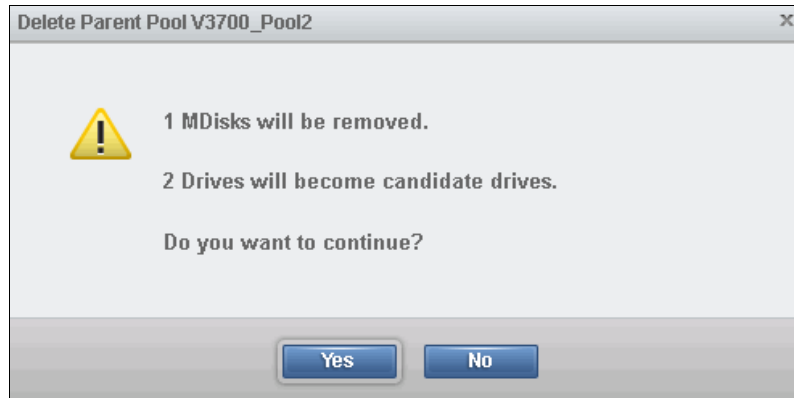

Figure 7-21 Delete pool confirmation
3. Select **Yes**. The MDisks associated to the pool are removed, and the drives become candidate drives, as shown in Figure 7-21.